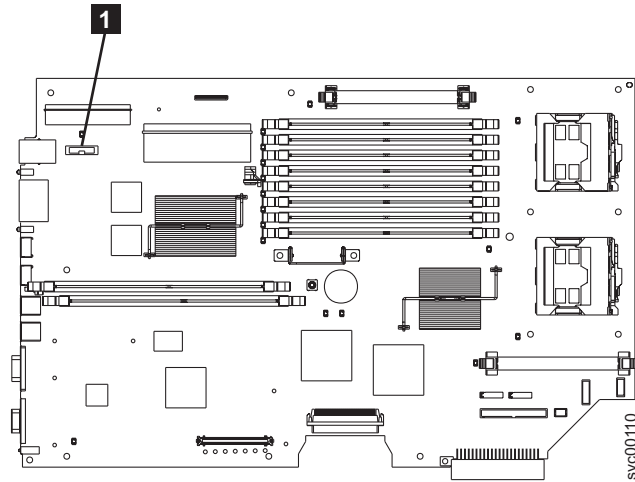

Figure 119. Battery location
4. Locate the battery **1** on the system board. See Figure 119 on page 377.